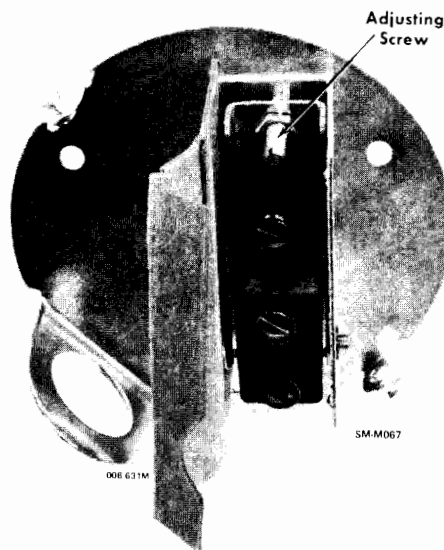

Figure 3-2. Over-Temperature Switch Adjustment
1. Remove the cover from the over-temperature switch and turn the adjusting screw (shown in figure 3-2) several turns clockwise to raise the actuation point.